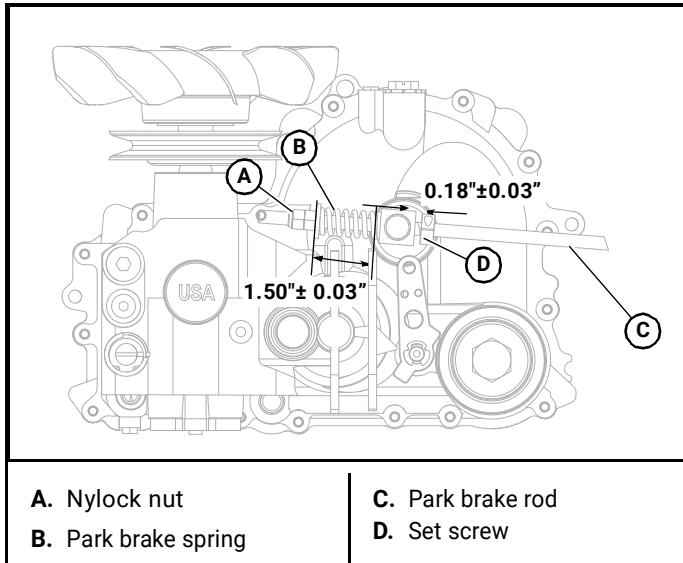

Figure 4-11
- On one side measure the park brake spring. It should be compressed to  $1.50" \pm 0.03$ . If it is not, adjust the nylock nut until the proper spring compression is achieved. Figure 4-11
3. With the spring adjusted and brake engaged, position the lock collar  $0.18" \pm 0.03$  from the pivot block and tighten the set screw. Figure 4-11